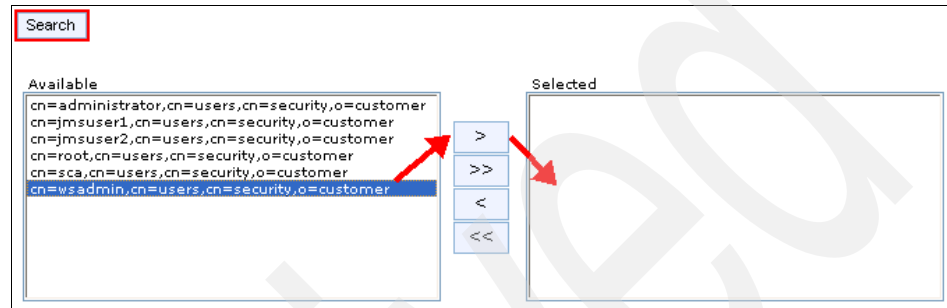

Figure 3-76 Configuring the KPI-Administrator
3. Click the **Search** button. Select the wsadmin user and click the > button to move the user to the *Selected* box (Figure 3-76).